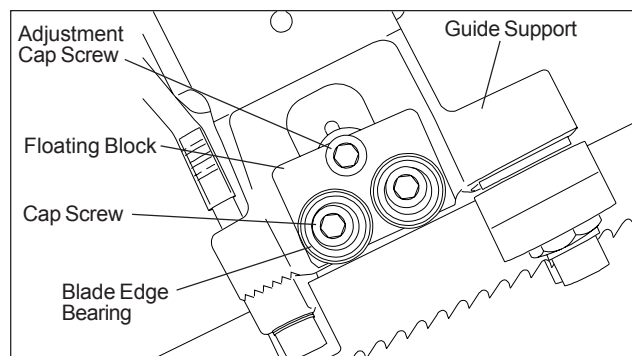

Figure 20: Blade Edge Bearing Replacement
## Replacement of Blade Edge Bearings (see figure 20)
2. Remove the attaching screw, spring washer and washer. Remove and discard the brush (see figure 20).